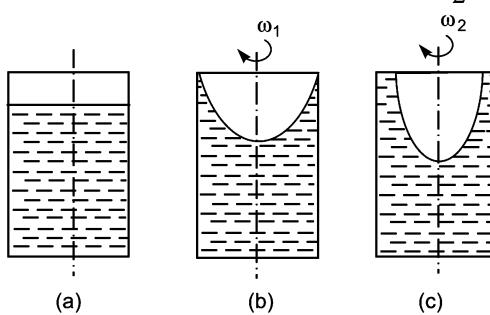

Fig. 5.20
**5.10.5 Closed Cylindrical Vessels.** If a cylindrical vessel is closed at the top, which contains some liquid, the shape of paraboloid formed due to rotation of the vessel will be as shown in Fig. 5.20 for different speed of rotations.
Fig. 5.20 (a) shows the initial stage of the cylinder, when it is not rotated. Fig. 5.20 (b) shows the shape of the paraboloid formed when the speed of rotation is  $\omega_1$ . If the speed is increased further say  $\omega_2$ , the shape of paraboloid formed will be as shown in Fig. 5.20 (c). In this case the radius of the parabola at the top of the vessel is unknown. Also the height of the paraboloid formed corresponding to angular speed  $\omega_2$  is unknown. Thus to solve the two unknowns, we should have two equations. One equation is